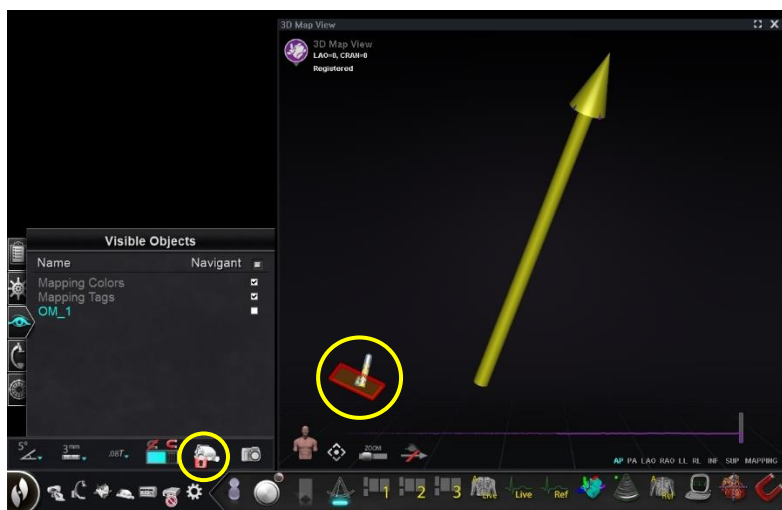

Figure 104. Retraction limit indicators
The final crossing plane location represents the limit to which the catheter can be retracted and still remain in the left atrium (see limit indicators in **Figure 104**). The Access Protection icon on the Navigation toolbar changes to a Locked status when the checkbox has been selected and the crossing plane location has been defined. Clicking on the Access Protection icon will toggle its state from Locked (ON) to Unlocked (OFF) and vice versa. The Access Protection status is represented by changes in the Access Protection icon (**Figure 102**). The icon is located on the *Navigant* toolbar (**Figure 103**).
When the catheter retraction limit is reached during post-registration catheter usage, the crossing plane and the Access Protection limit icon both flash red (emphasized in **Figure 104**).